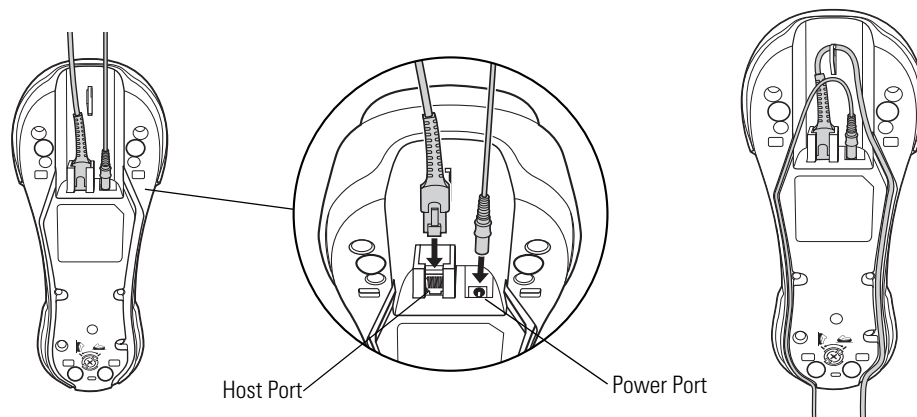

Figure 1-4 Connecting the Cables to the Cradle
1. Disconnect the power supply from the digital scanner cradle. See Figure 1-4.